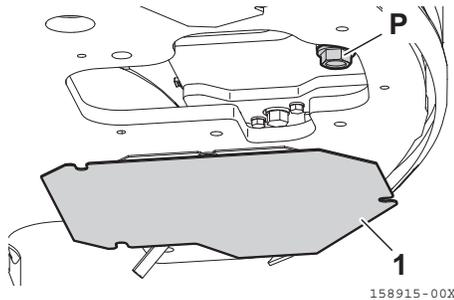

Fig. 8-55
1. Swing the upperstructure so that the drain plug (**Fig. 8-55, P**) at the bottom of the hydraulic tank will be positioned in the middle of the right and left crawlers.
4. Remove the cover (Fig. 8-55, 1) on the lower right side of the upperstructure.
5. Put the container for waste oil under the drain plug (Fig. 8-55, P).
6. Remove the drain plug (Fig. 8-55, P) and drain the waste oil.
- When removing the drain plug (Fig. 8-55, P), take care that the oil does not splash your body.
8. After draining, tighten the drain plug (Fig. 8-55, P).